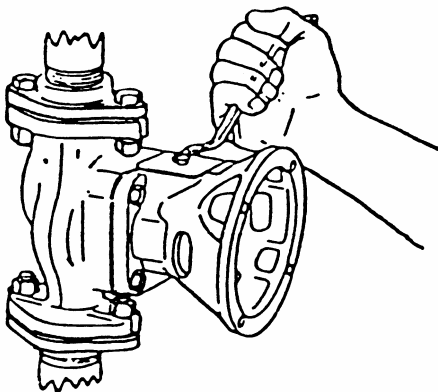

Fig 2. Removing Bearing Assembly
3. Remove Bearing Assembly from Pump Body by removing Body Cap screws. (Fig. 2)